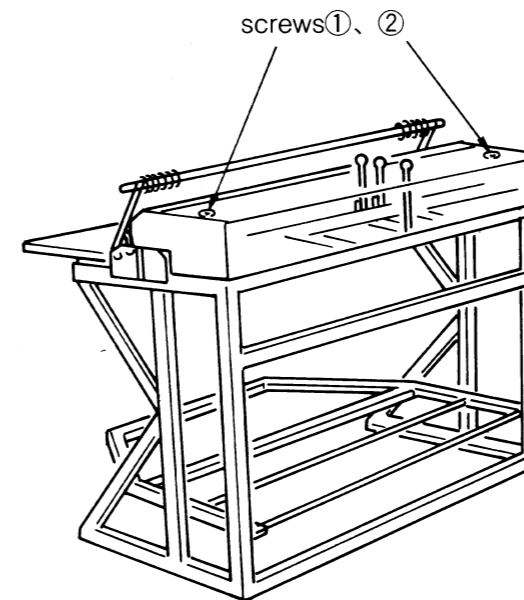

fig 1
- 6 Install the cover. (cf.fig 1)